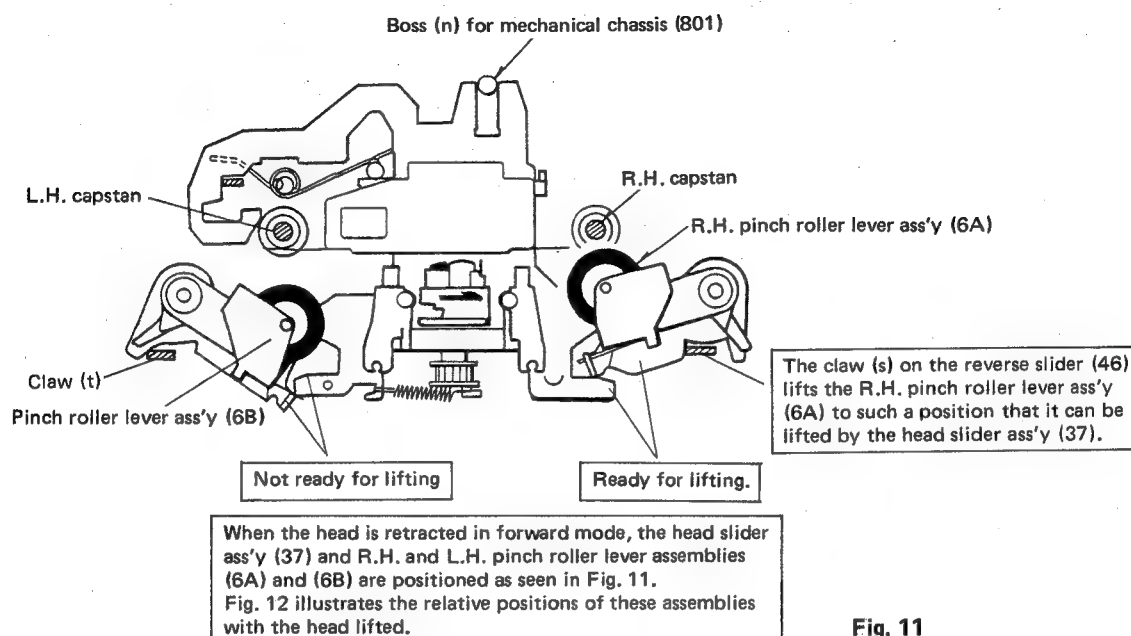

Fig. 11
- 7) At this time, the head slider ass'y (37) lifts the R.H. pinch roller lever ass'y (6A), as illustrated in Figs. 11 and 12.